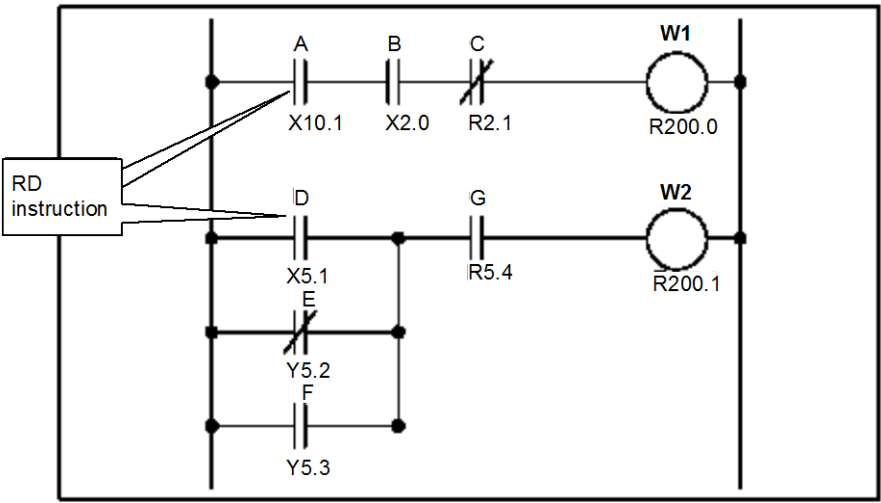

Fig. 4.1.2
- (1) Use this instruction to start coding from contact A (–|–). For examples of how the RD instruction is used, see the ladder diagram shown in Fig. 4.1.2 and the input example in the mnemonic format given in Table 4.1.2.
- (2) The instruction reads the status (0 or 1) of the signal at the specified address and sets it in the ST0 bit.
- (3) The signal (contact) to be read by the RD instruction may be any signal (contact) that is input as a logical condition of a coil (output).